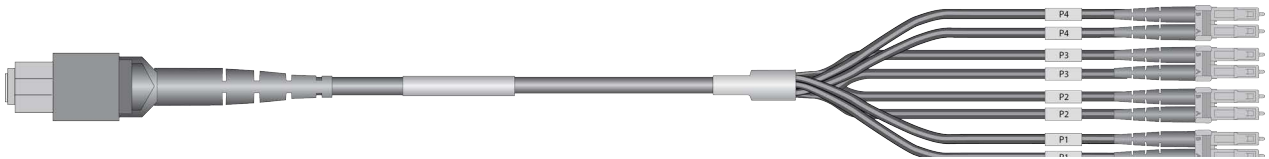

Figure 5. Breakout Cable
- ❑ Copper and fiber optic breakout cables. A breakout cable allows a single 100G port to be split into four separate 25G connections and a single 40G port into four 10G connections. Figure 5 shows a breakout cable as an example.